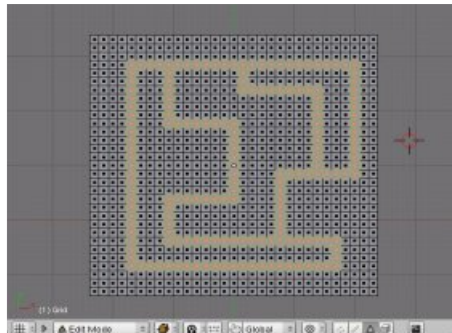

Fig 9: Selection for tracks.
3. In Edit mode, toggle the Face selection button and create a track for your car. See fig 9.